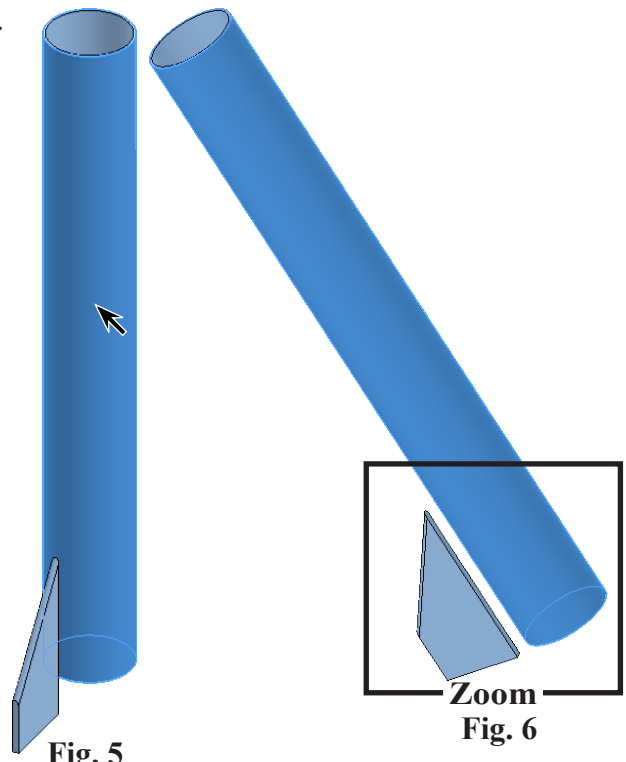

Fig. 5
Step 6. Click **cylindrical face of Body Tube**, **Fig. 5**.